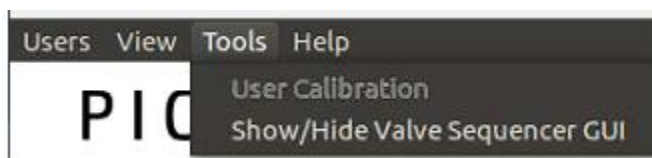

Figure 50: Show/Hide Sequencer Drop-Down
6. On the status bar menu of the analyzer *Data Viewer* screen, select **Show/Hide Valve Sequencer GUI** drop-down (Figure 50).